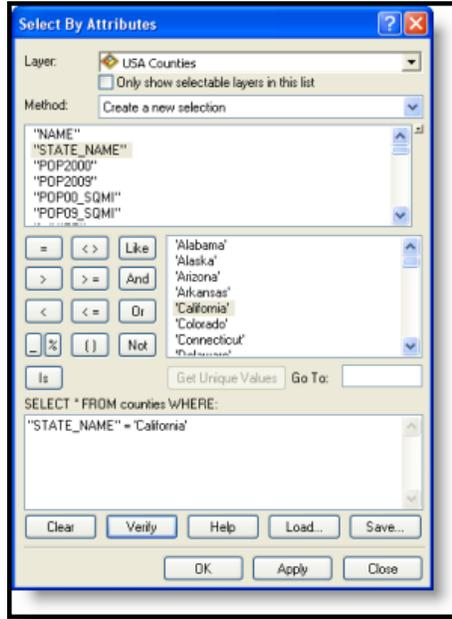

Figure 144: ArcMap Select By Attributes Dialog Box
1. Click Selection > Select By Attributes to open the Select By Attributes dialog box, which is depicted in Figure 144 below.